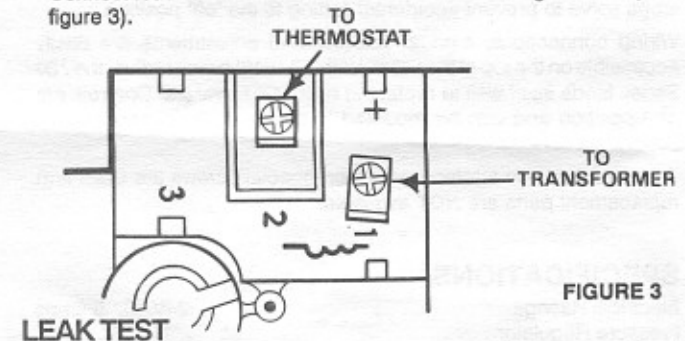

FIGURE 3
- Connect lead from transformer to #1 terminal on the gas valve (see figure 3).
- Connect lead to wall thermostat to #2 terminal on gas valve (see figure 3).
- If you don't smell gas, hold match at pilot burner. **WARNING:** If pilot lights without moving selector arm to the "set" position, replace control. Push selector arm to the "set" position and hold it while lighting the pilot burner. (See figure 2.) Allow pilot to burn approximately 1 minute. If pilot does not remain lit after returning selector arm to "pilot" position, (See figure 3), repeat operation allowing longer period before releasing the selector arm. (Adjust pilot, if necessary, as noted under "pilot burner adjustment".) the thermocouple may also be defective and should be checked (see Service Instructions.)